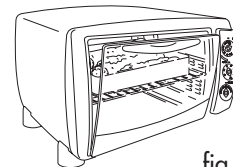

fig. 4
To top-brown casseroles with crumb or cheese toppings, place the shallow pan (N) directly in slot 1; if the food has been prepared on a container, place the container on the wire rack (O) inserted in slot 2 (as shown in the figure 4).